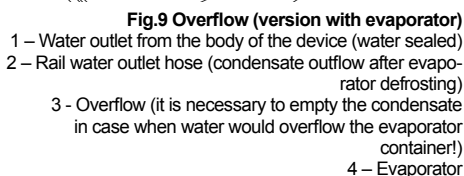

Fig.9 Overflow (version with evaporator)
9. Place the condensate container on the basis of the device, under the water seal, according to Fig.8/3 or Fig.9/3